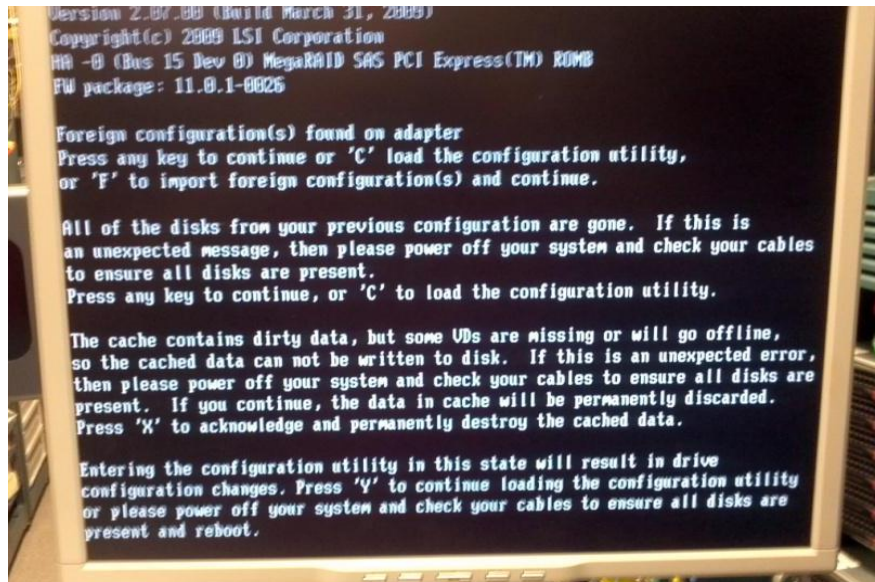

Figure 51: Prompt to enter the WebBIOS configuration Utility
7. Press 'X', to continue and press 'Y' following the figure 51 below: